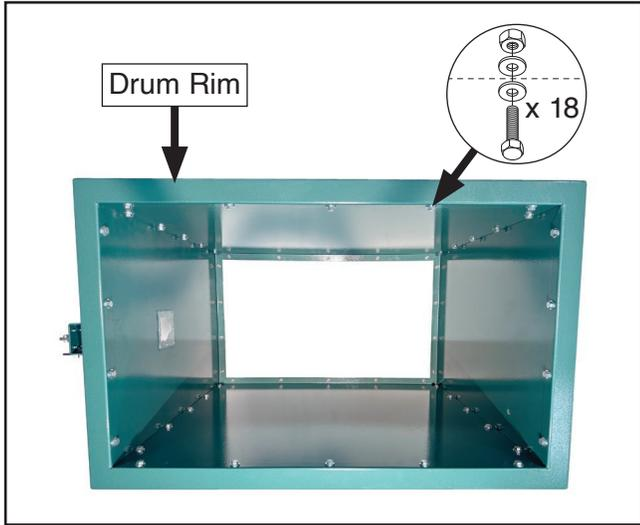

Figure 46. Drum rim attached to drum assembly.
35. Attach (1) drum rim to top of drum assembly with (18) $\frac{5}{16}$ "-18 x $\frac{5}{8}$ " hex bolts, (36) $\frac{5}{16}$ " flat washers, and (18) $\frac{5}{16}$ "-18 hex nuts (see **Figure 46**).